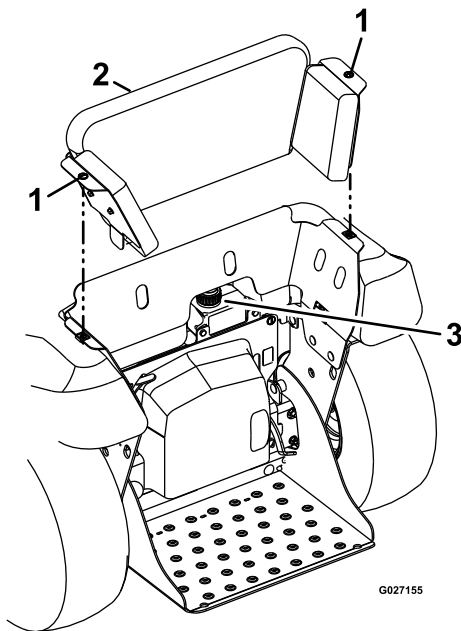

Figure 84
7. Install the tank cap onto the expansion tank and tighten the cap until it is snug (Figure 84).
2. Rotate counterclockwise the 2 quarter-turn fasteners that secure the knee pad to the chassis of the machine (Figure 84).
3. Lift the knee pad up and rearward slightly and remove the pad from the machine (Figure 84).
4. Clean area around fluid-expansion tank and remove cap (Figure 84).